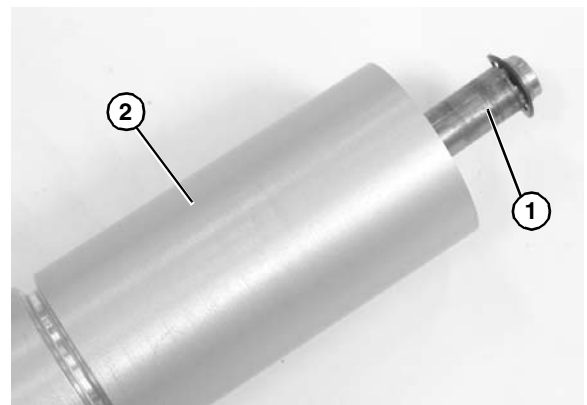

Figure 53
6. Slide the shaft assembly (**Figure 53, item 1**) out of the pulley (**Figure 53, item 2**).